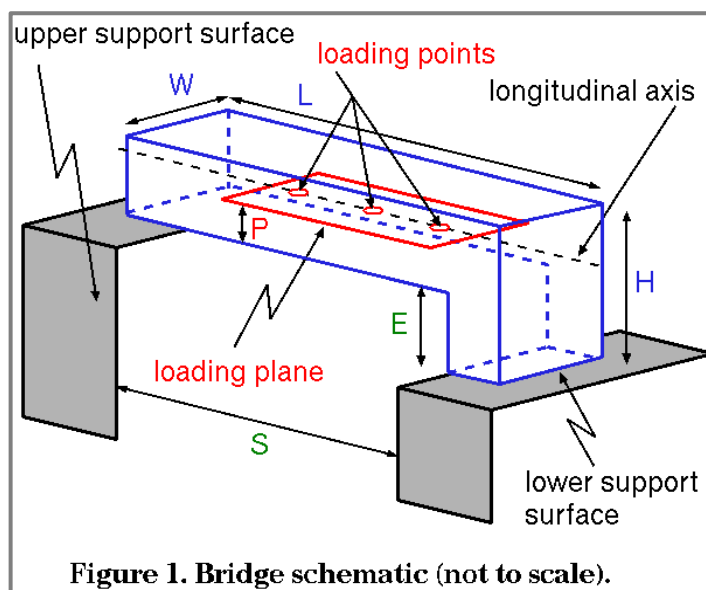

Figure 1
- b. The bridge shall rest on two support surfaces separated in elevation (**E**) by 10. mm and horizontally by a gap (**S**) of 300. mm (see **Figure 1**).
- c. The bridge (see **Figure 1**) must span a gap (**S**) of 300. mm, be no longer (**L**) than 400. mm, no wider (**W**) than 80. mm, and no taller (**H**) than 150. mm above the **lower** support surface. No part of the bridge may extend below the lower support surface.
- d. The bridge must be constructed to provide a horizontal support for the loading plate (see **section 3b**) at each of the three loading locations: in the center of the 300. mm span and 50. mm to either side of the center (see **Figure 1**). The three loading locations must lie in the same horizontal loading plane a distance (**P**) of 10. to 50. mm above the upper support surface.